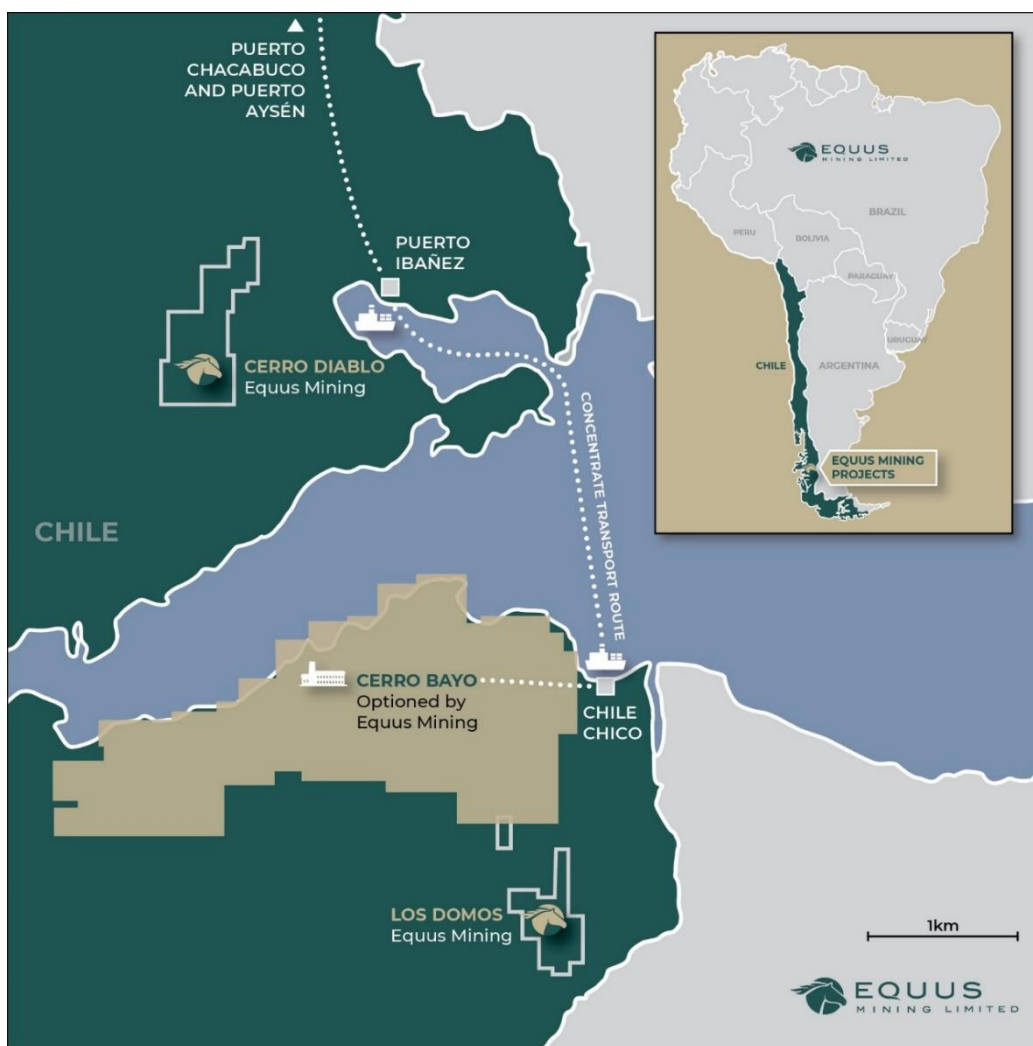

Figure 2 – Location plan of Equus Mining's Cerro Bayo mining district and other projects.
- ▶ Assays remain outstanding for a further 4 holes at Droughtmaster from holes drilled to target mineralization both down dip and along strike from hole CDB020 from which modeled geometries of mineralization will be finalised (Figure 2).